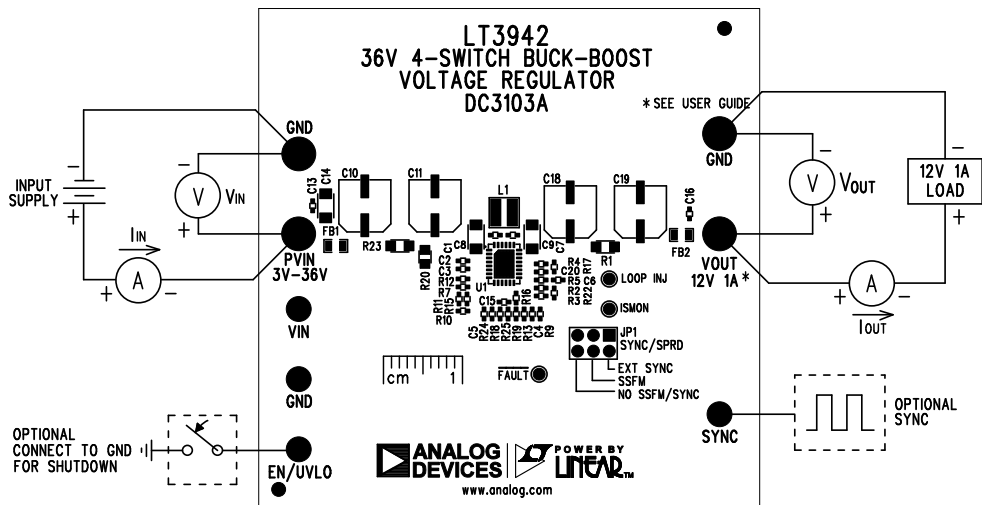

Figure 1. . Test Procedure Setup Drawing for DC3103A
1. With power off, connect a load capable of 12V 1A operation between the VOUT and GND turrets on the PCB as shown in Figure 1.